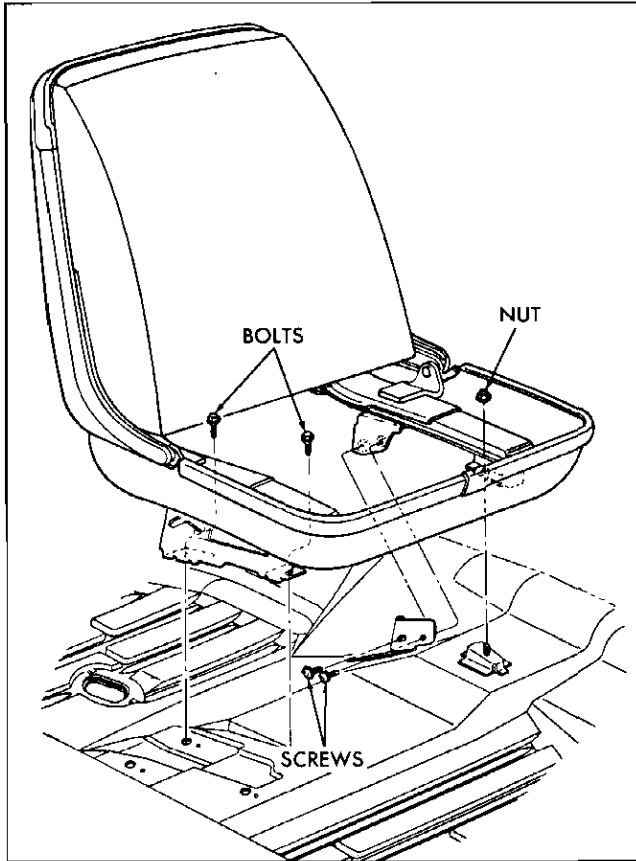

Fig. 5-8 Bucket Seat—Passenger's Side
2. Remove nut (located at the front inboard corner of seat assembly), bolts and screws that secure seat adjusters or seat stationary supports to floor pan (Fig. 5-8).